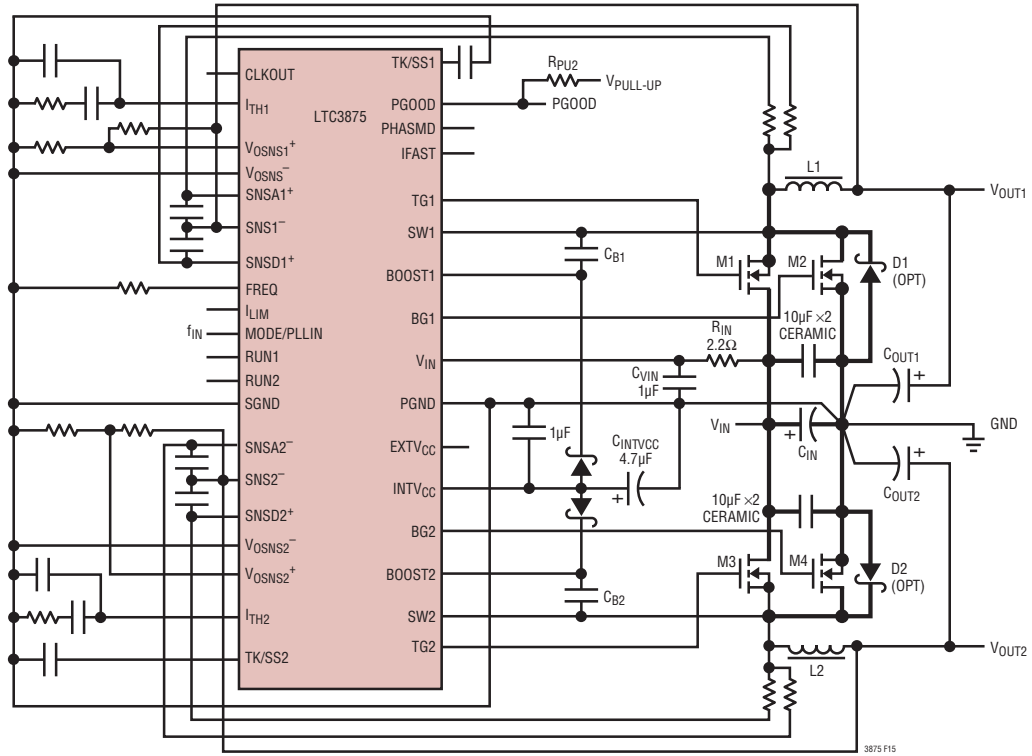
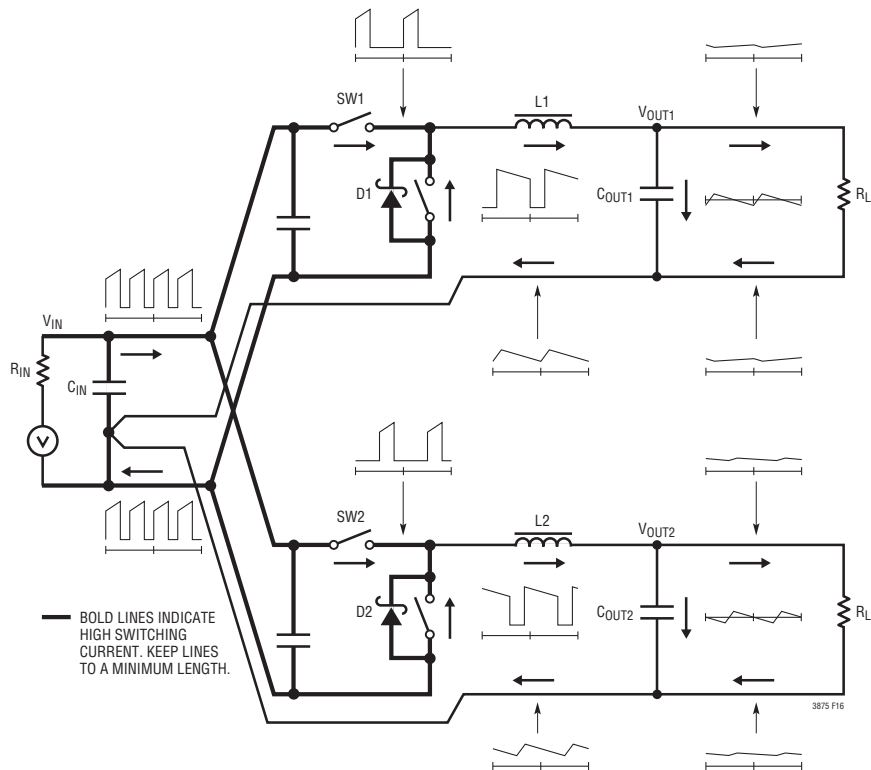

Figure 15. Recommended Printed Circuit Layout Diagram
Figure 16. Branch Current Waveforms
When laying out the printed circuit board, the following checklist should be used to ensure proper operation of the IC. These items are also illustrated graphically in the layout diagram of Figure 15. Figure 16 illustrates the current waveforms present in the various branches of the 2-phase synchronous regulators operating in the continuous mode.
9. The 47pF to 330pF ceramic capacitor between the ITH pin and signal ground should be placed as close as possible to the IC. Figure 16 illustrates all branch currents in a switching regulator. It becomes very clear after studying the current waveforms why it is critical to keep the high switching current paths to a small physical size. High electric and magnetic fields will radiate from these loops just as radio stations transmit signals. The output capacitor ground should return to the negative terminal of the input capacitor and not share a common ground path with any switched current paths. The left half of the circuit gives rise to the noise generated by a switching regulator. The ground terminations of the synchronous MOSFET and Schottky diode should return to the bottom plate(s) of the input capacitor(s) with a short isolated PC trace since very high switched currents are present. External OPTI-LOOP[®] compensation allows overcompensation for PC layouts which are not optimized but this is not the recommended design procedure.